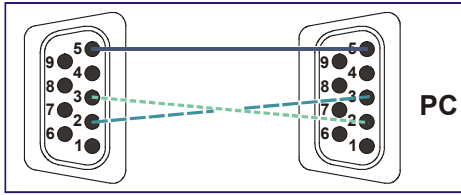

Figure 4: Crossed Cable RS-232 Connection
**Method A** (Figure 4)—Connect the RS-232 9-pin D-sub port on the unit via a crossed cable (only pin 2 to pin 3, pin 3 to pin 2, and pin 5 to pin 5 need be connected) to the RS-232 9-pin D-sub port on the PC.